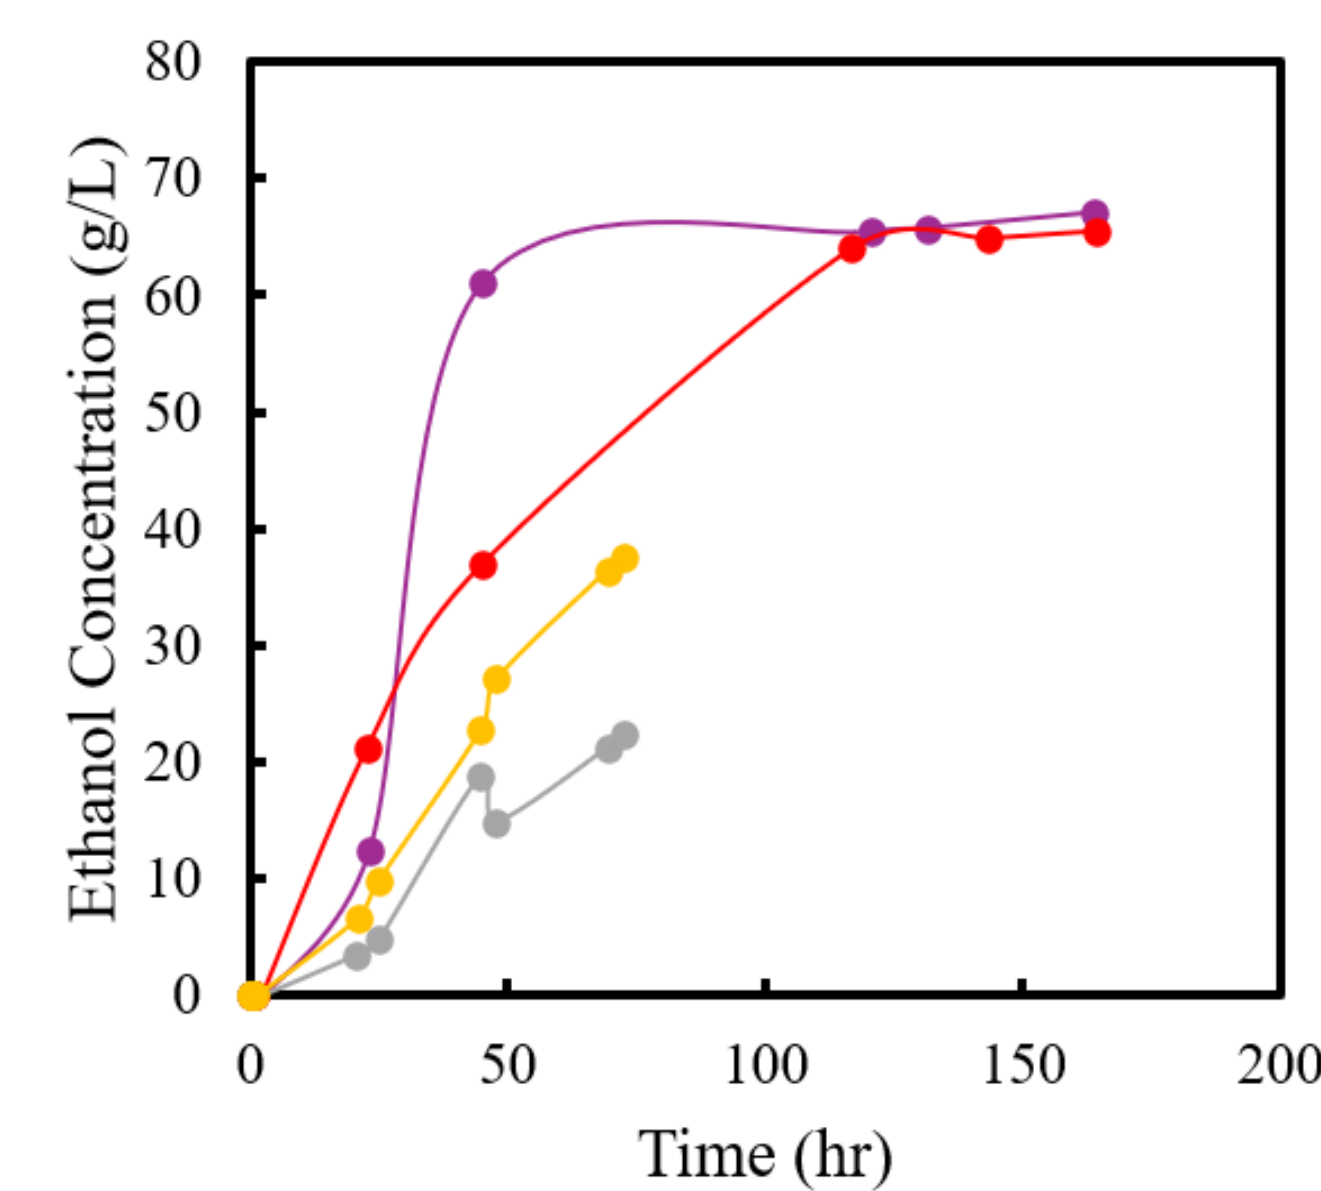

Figure 3. Ethanol concentration (g/L) vs. time (hr) for bioreactor samples of fermented fruit juices
- In Fig. 3 & 4, we see the Ethanol concentration and the amount of CO₂ produced over time, showing that the grape and apple reach the same ethanol concentration of approximately 65 g/L